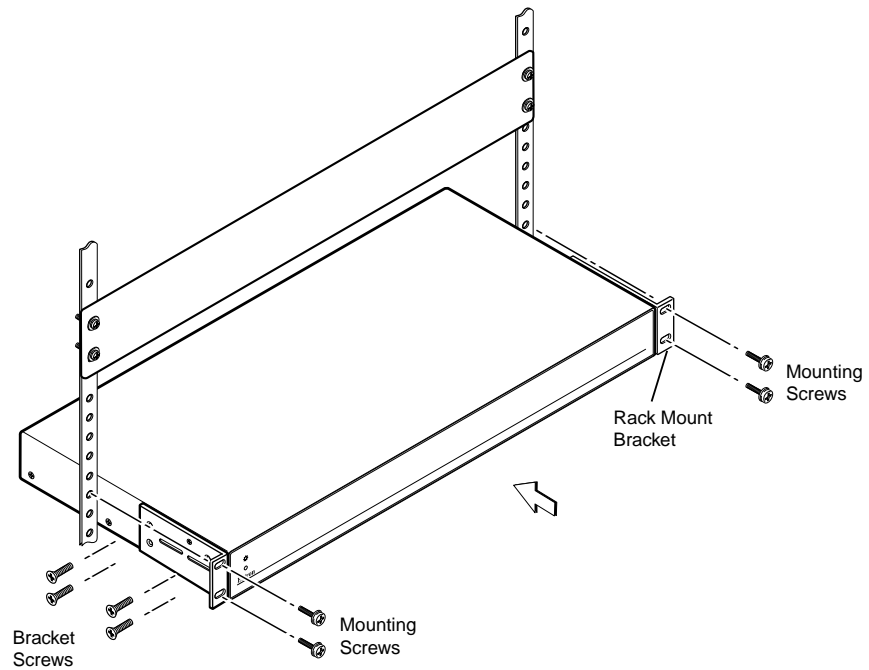

Figure 2-1 — Rack mounting the switcher
2. Use four supplied 8-32 x 5/16" long screws to secure a mounting bracket to each side of the unit (figure 2-1).